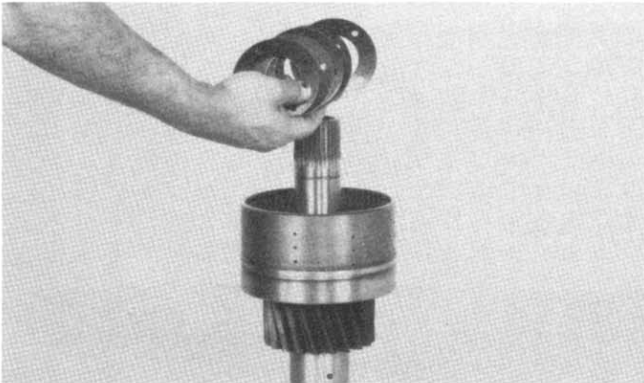

Figure 83
See Note in Figure 83
See NOTE in figure 83. Install disc springs. First spring with large diameter toward spacer. Alternate (5) five washers. See page 59, Figure C.